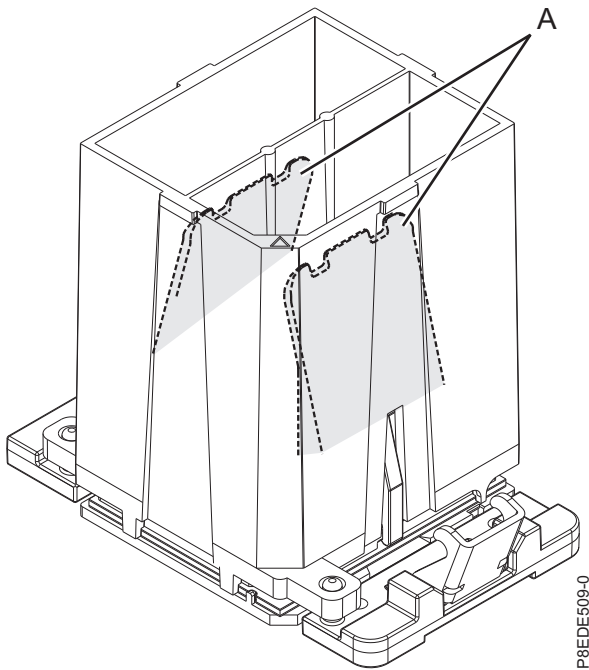

Figure 194. Removing the system processor module tool
- b. After the tool and system processor module holes and guide pins are properly aligned, squeeze and hold the two blue release tabs (**A**) together until a firm stop is reached, as shown in Figure 194 on page 194. Then, lift the tool off the system processor module.